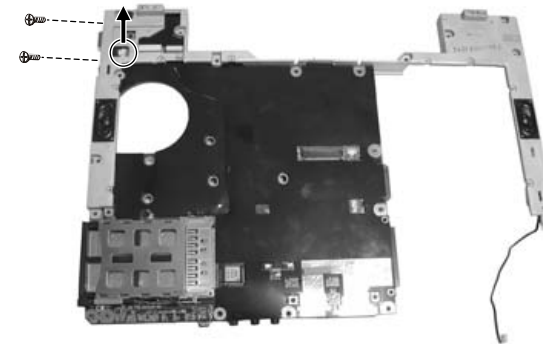

Figure 2-31 Free the system board
3. Disconnect the one speaker's cables from the system board and remove the two screws, Then separate the bracket and free the system board. (Figure 2-31)